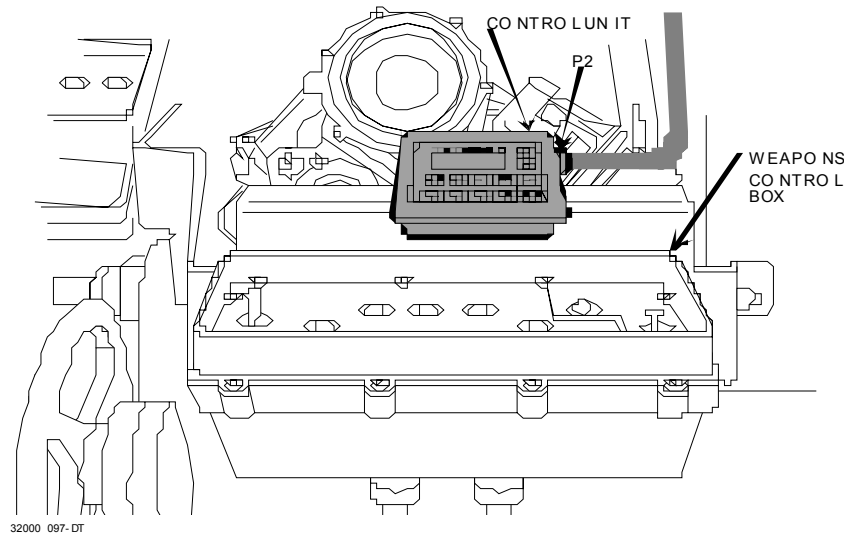

Figure 2-30. M2/M3 Control Unit.
- e. Attach fastener tape above the Weapons Control Box. Mount the CU to the fastener tape and ensure that it is firmly seated. (See Figure 2-30.)